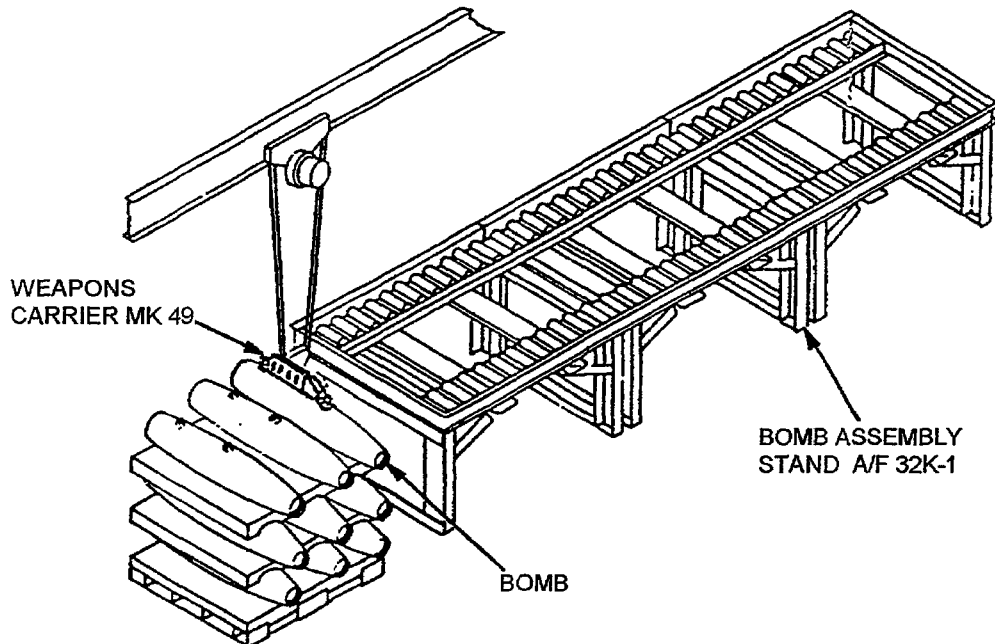

Figure 4-1B. Typical Bomb Handling Equipment
- d. With suspension lugs up (12 o'clock), place bombs on bomb assembly stand or skid (Figure 4-1B). Dolly Mk 11 may be used as an alternate platform for Mk 83/BLU-110A/B only (Appendix B).